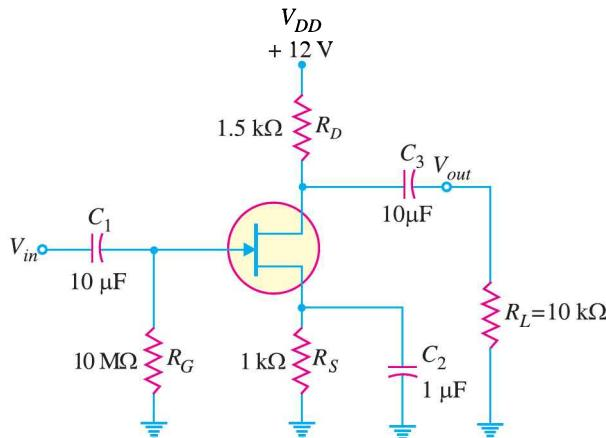

Fig. 19.68
10. If a 50 mV r.m.s. input signal is applied to the amplifier in Fig. 19.68, what is the peak-to-peak output voltage? Given that  $g_m = 5000 \mu\text{S}$ . [ 920 mV ]